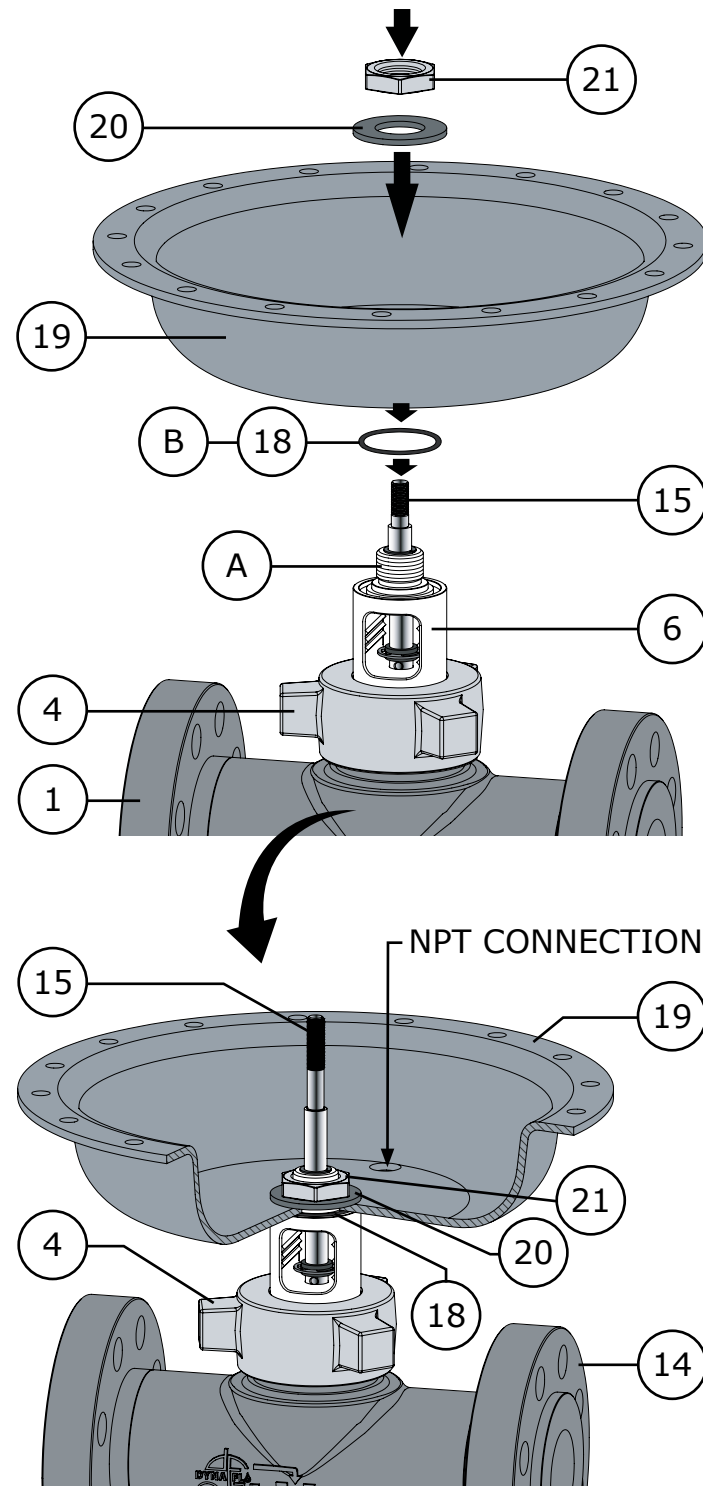

Figure 40 Lower Diaphragm Casing Installation
- Apply Dow Corning Molykote® 111 (Key B) to the casing o-ring (Key 18) and install it in to the O-ring groove on top of the bonnet (Key 6). Refer to Figure 40.
- Place the lower diaphragm casing (Key 19) over the valve stem so that it rests on the casing o-ring (Key 18). Orientate the NPT connection of the casing so that it is centered within the bonnet window (Key 6). Reference Figure 40 or any marks made during disassembly for correct NPT orientation.
- While holding the lower diaphragm casing (Key 19) in place, thread the bonnet locknut (Key 21) onto the bonnet threads using a 1-1/2" deep socket and tighten to 200 lbf-ft. (Refer to Figure 40)